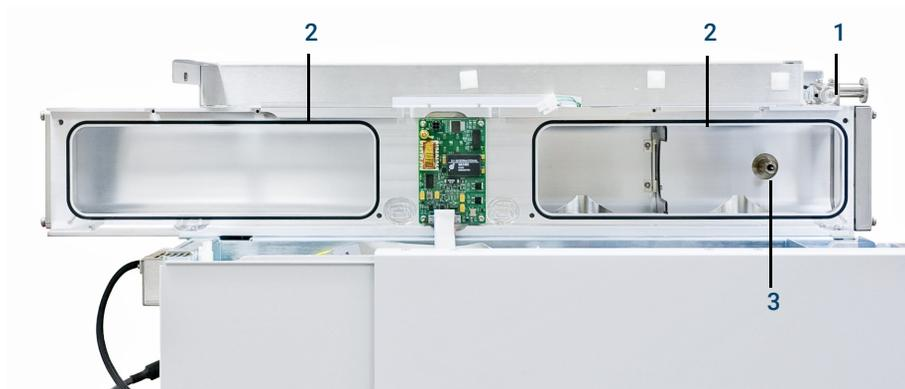

Figure 56. Analyzer chambers and related parts
This section shows the analyzer chambers and associated parts. (See **Table 16** and **Figure 56**.)
**Table 16 Analyzer chambers and related parts (Figure 56)**